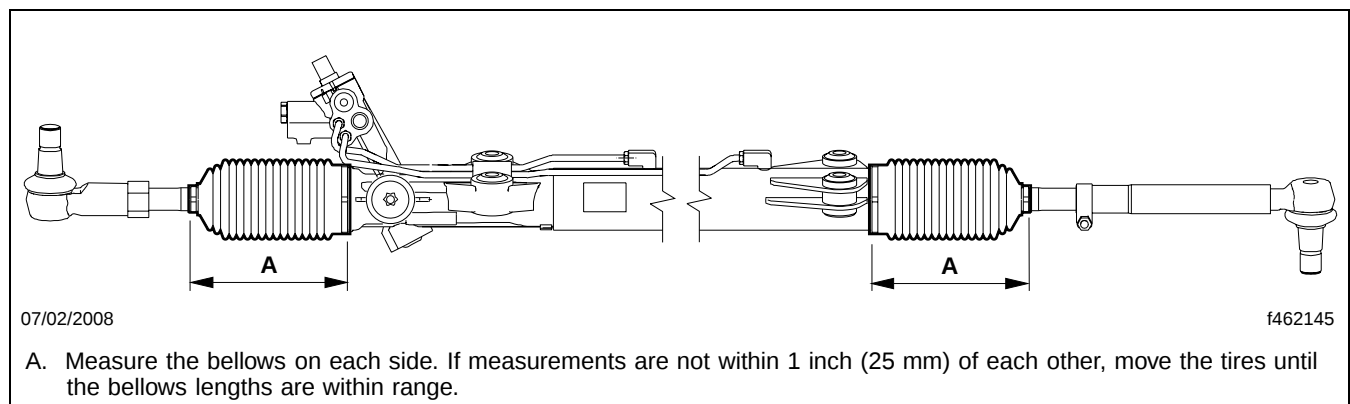

Fig. 5, Measuring the Tie Rod Bellows
- 17.1 Measure the length of the bellows from clamp to clamp on each side of the gear. See **Fig. 5**. If measurements are not within 1 inch (25 mm) of each other, move the tires until the bellows lengths are within range.